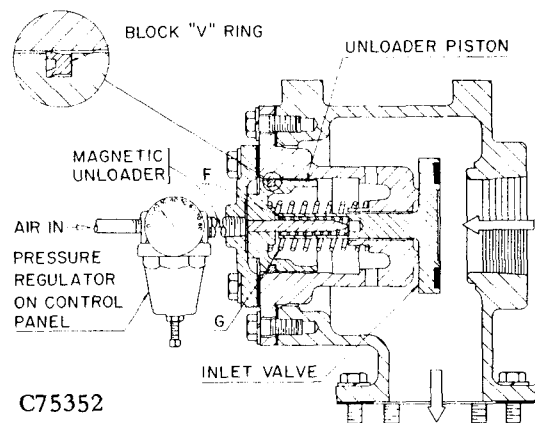
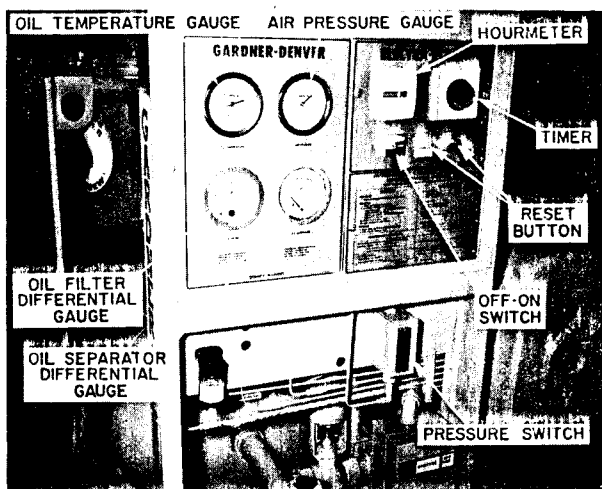

FIGURE 9-4. -- INLET VALVE FOR DUOMATIC CONTROL
FIGURE 10-4. – INSTRUMENT PANEL
controlled by the adjustable timer on the instrument panel (Figure 10-4).
The air pressure switch located under the unit control panel (Figure 10-4) controls the operating pressure of the system by opening and closing the inlet valve (Figure 9-4) as in Constant Speed and Timed Duomatic operation. The switch
**Inlet Valve (Figure 9-4)** – The piston-actuated inlet valve controls the compressor inlet and operates on air pressure from the control circuit. The valve is closed when the preset full pressure is on the system, and open when the pressure in the system falls to a preset minimum. The inlet valve contains piston spring “G” which returns piston and allows the inlet valve to open when the pressure is removed, and valve spring “F” which returns the valve to a closed position on shutdown of the compressor to prevent oil blowback from the compressor through the air filter. The pressure regulator must be set 20–25 PSIG to prevent valve “slam”.